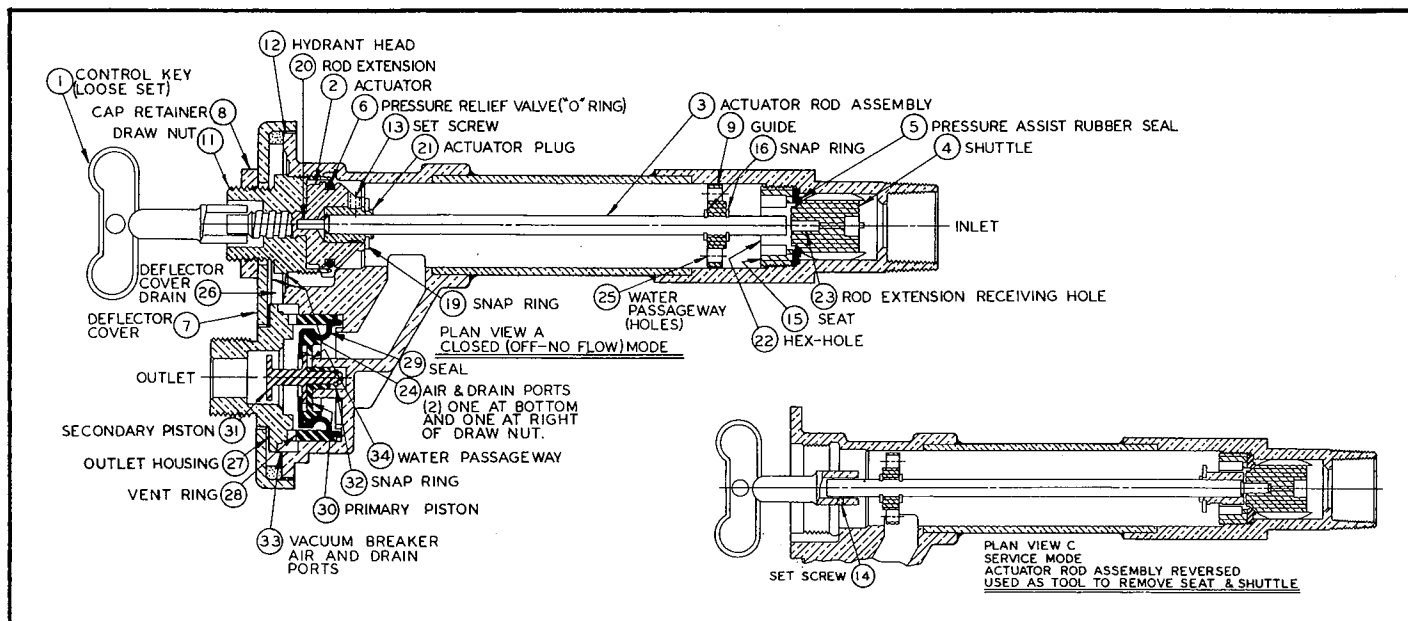

FIGURE 3
Refer to Figure 3 for identification of parts and features mentioned in these instructions.
D. Reverse Actuator Rod (3) and insert into hydrant as far as possible, using Control Key (1) secured to Actuator Rod (3) with Set Screw (14). With Actuator Plug (21) (hex.) on end of Actuator Rod (3) inserted in Hole (22) in Seat (15), which places Rod Extension (20) in Hole (23) in Shuttle (4), firmly rotate Control Key (1) counterclockwise to unscrew Seat (15) and pull out entire Valve (15, 5 and 4). See Figures 3, 6, and 7.
E. Replace worn parts with new parts as required. Reassemble hydrant, reversing the procedure in Steps A through D to place it back in service. Be sure to make Cap Retainer (8) tight to prevent tampering.